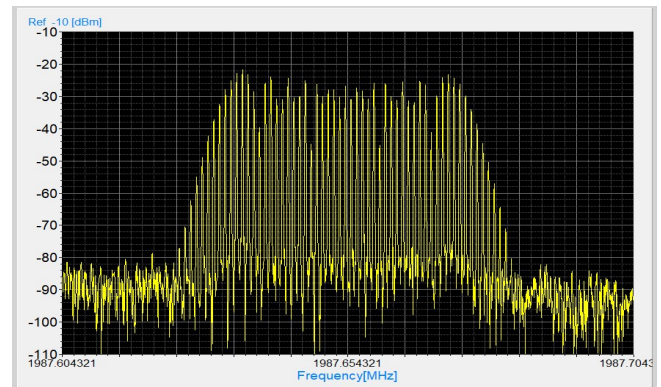

Fig.13 Singal FM SPAN=100KHz, RBW=100Hz
4. Open the **RBW** menu and set RBW to **50 Hz**. With this narrow RBW, the detailed FM spectrum becomes clear, showing individual spectral lines spaced at **1 kHz** (see Fig. 13).